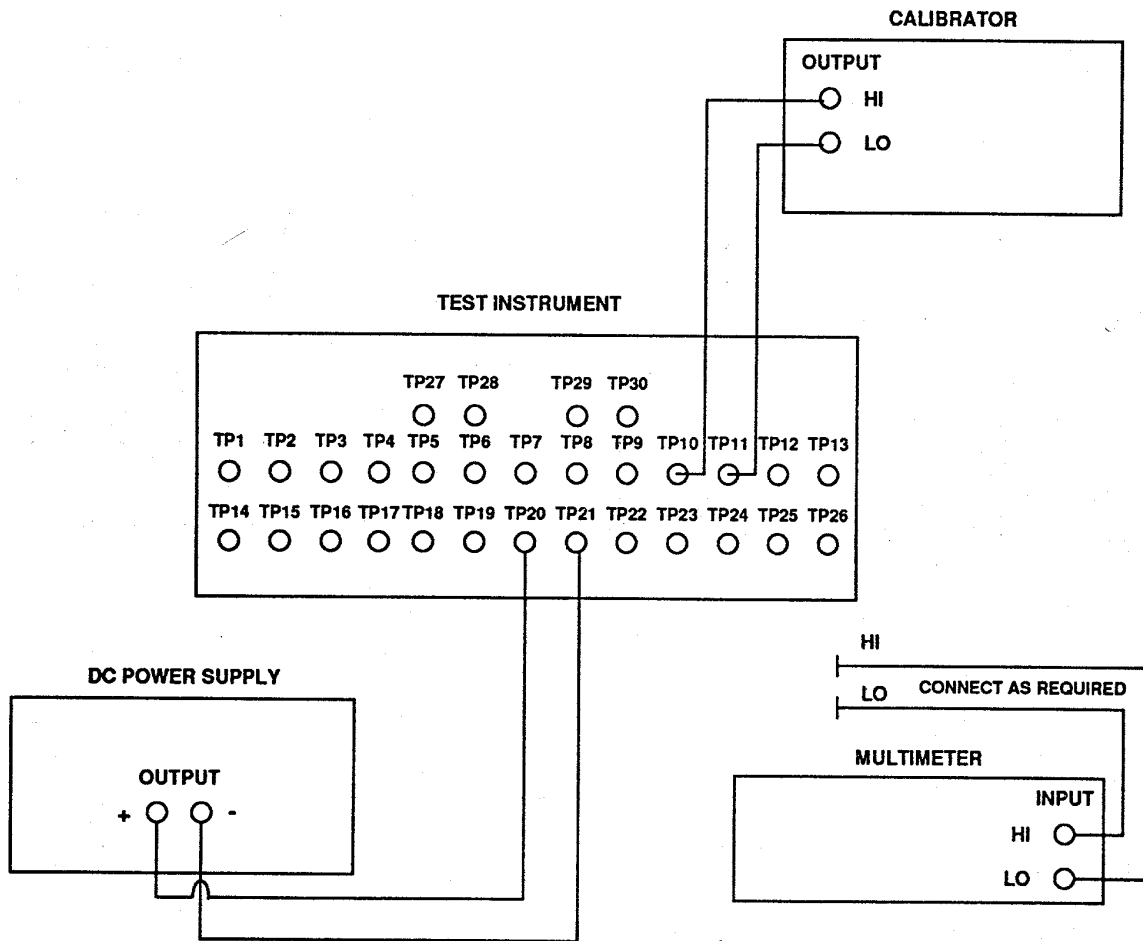

Figure 1. Dc and ac voltage.
b. Connect calibrator and dc power supply as shown in figure 1.